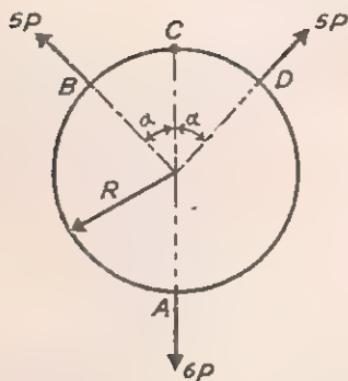

Fig. 49
27. A ring of mean radius R is made from a bar of uniform section with the two ends at C connected by a pin-joint. The ring is subjected to three radial forces arranged in equilibrium as shown in Fig. 49. Show that the force in the pin is